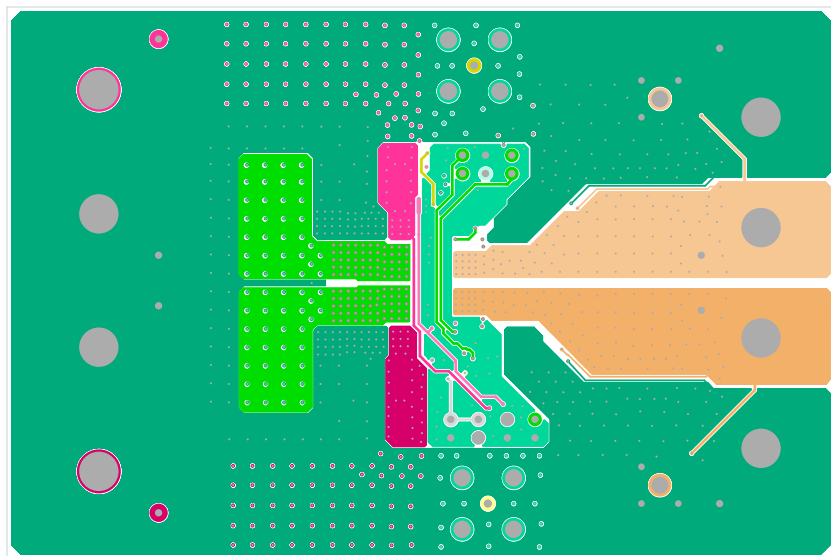

FIGURE 5. LAYER 2
2. Phase 1 and Phase 2 pads are switching nodes that generate switching noise. Keep these pads under the module. For noise-sensitive applications, it is recommended to keep phase pads only on the top and inner layers of the PCB; do not place phase pads exposed to the outside on the bottom layer of the PCB. To improve the thermal performance, the phase pads can be extended in the inner layer, as shown in Phase 1 and Phase 2 pads on layer 2 (Figure 5 on page 6) for this dual 15A evaluation board. Make sure that layer 1 and layer 3 have the GND layers to cover the extended areas of phase pads at layer 2 to avoid noise coupling.